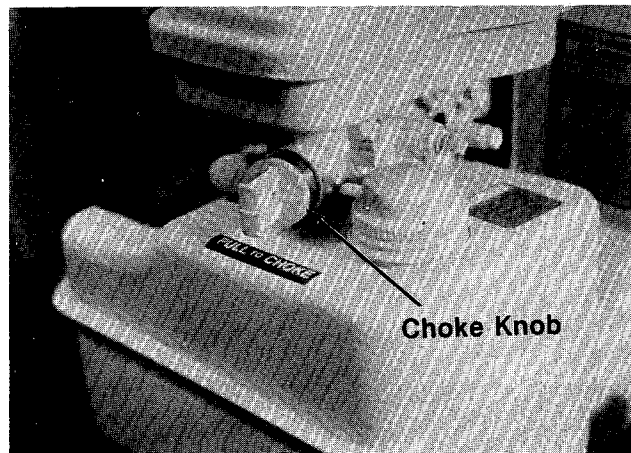

FIGURE 14.
2. Pull choke knob out to choke engine. See figure 14.